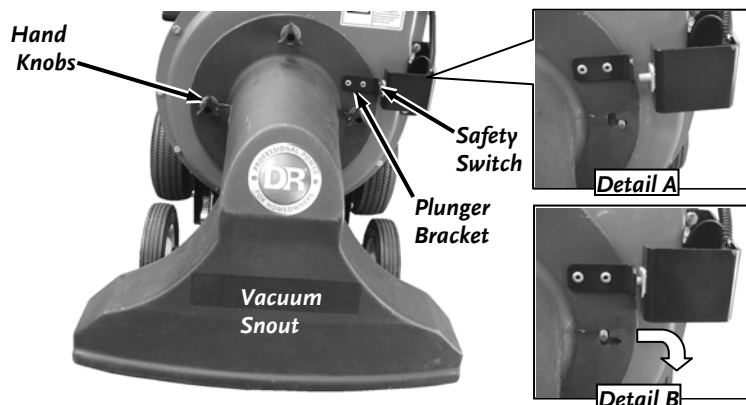

Figure 15
16. Place the Vacuum Snout onto the front of the Housing (**Figure 15**) so the studs are located in the right hand side of the lower slots (**Detail A**). Slide the Snout to the right and down so the Plunger Bracket on the Snout pushes the Safety Switch in (**Detail B**). Install four 5/16-18 Hand Knobs with Fender Washers onto the studs to secure the Vacuum Snout.